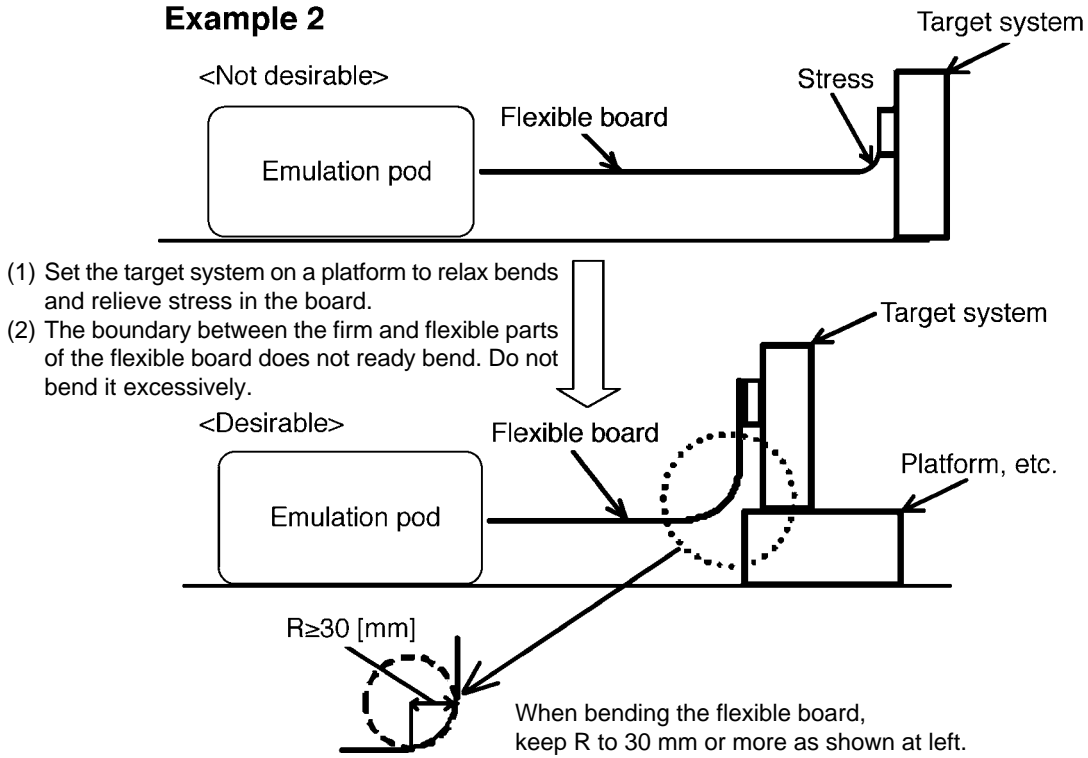

Figure 1.1 Note on handling the flexible cable PCA7733 REV.B
- The flexible cable for connecting to the emulator main unit or the flexible cable PCA7733 REV.B for connecting the target system are different from earlier models. The slits make them more flexible. However, excessive flexing or force may break conductors. Figure 1.1 (next page) shows the examples of excessively flexed cables and how to handle them.